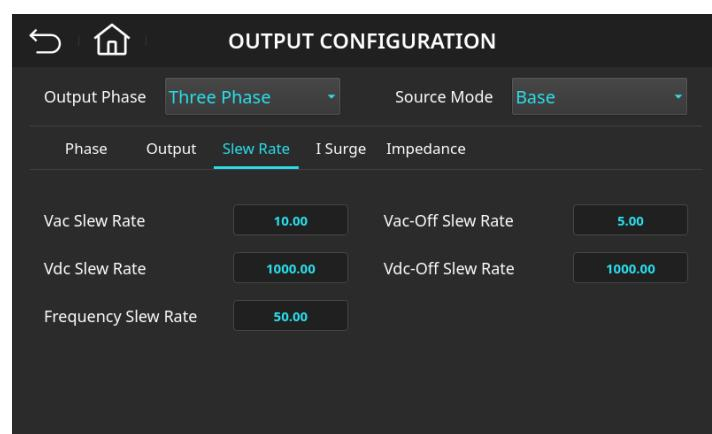

Figure 4-42: Output Slew Rate (Slew Rate) Setting Page
7. Enter **5**, **0**, then press the **Enter** key. The value will change to “50.00”, as shown in Figure 4-42.